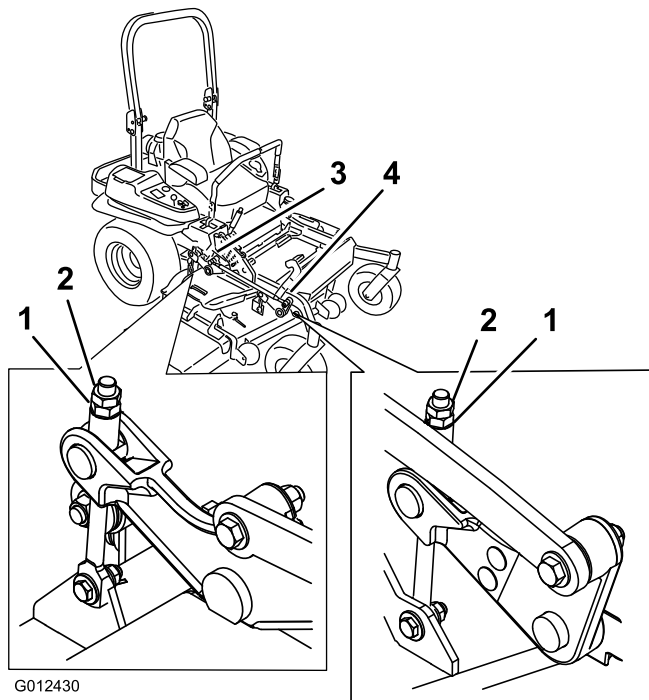

**Figure 93**
9. On both sides of the deck, measure from the level surface to the front tip of the blade (Position A). The measurement should read 3 inches (7.6 mm) (Figure 93).
16. On both sides of the deck, measure from the level surface to the back tip of the blade (Position B). The measurement should read 3 1/4 inches (8.3 cm) (Figure 93).